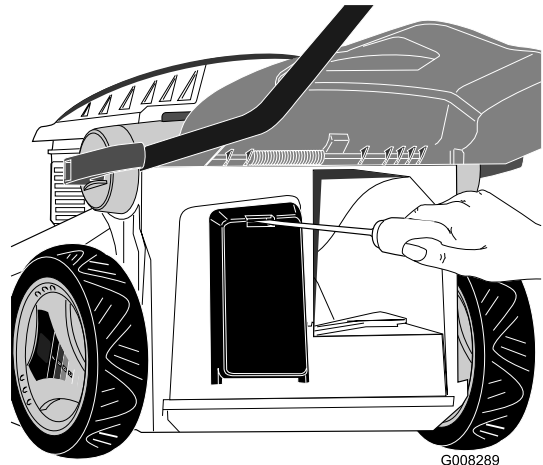

Figure 23
1. Open the cover to the battery compartment (Figure 23).